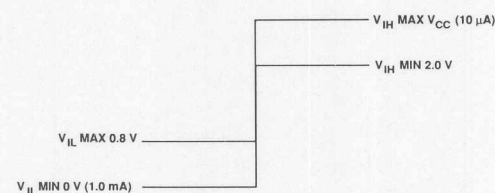

Figure 14. Transmit Data Receiver Levels.
8. Figure 14 shows the receive levels for the Transmit Data lines.